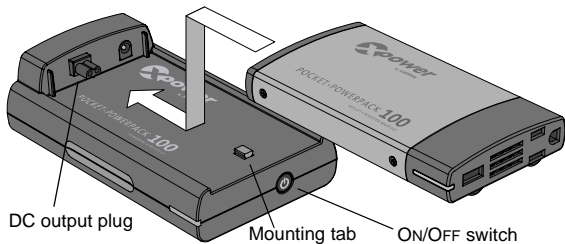

Figure 5 Connecting the Inverter and Powerpack
1. Connect the inverter module to the Powerpack, ensuring that the mounting tab on the Powerpack slides into the slot underneath the inverter. Insert the DC output plug on the Powerpack into the inverter's DC input port. See Figure 5.